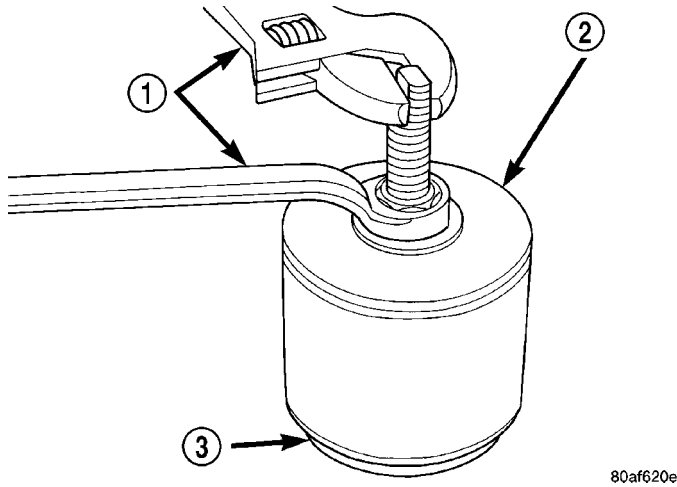

Fig. 58 Remove Transfer Shaft Bearing Cup
(42) Remove transfer shaft bearing cup from retainer using Tool 6062 (Fig. 58).